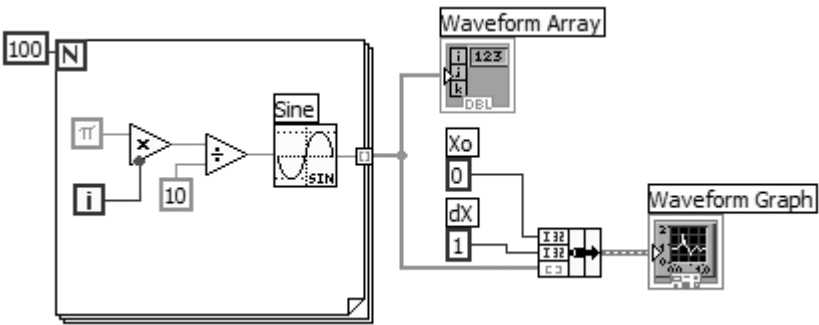
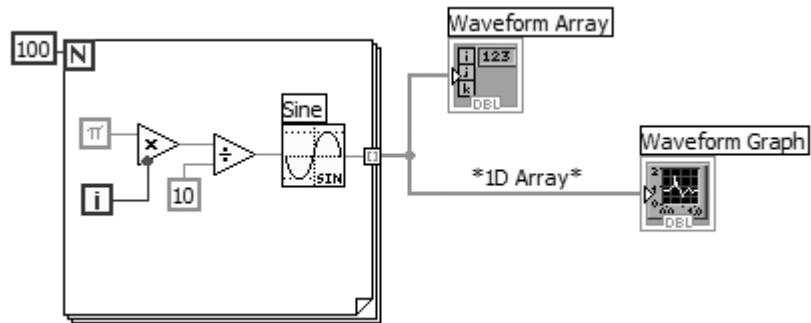

Figure 8.20
Figure 8.22
4. Build the block diagram shown in Figure 8.20.
In the block diagram of Figure 8.20, you specified an initial X and a delta X value for the waveform. Frequently, the initial X value will be zero and the delta X value will be 1. In these instances, you can wire the waveform array directly to the waveform graph terminal, as shown in Figure 8.22, and take advantage of the default delta X and initial X values for a graph.
the **Edit** menu or use the keyboard shortcut (<control-B> in Windows, <command-B> in Mac OS X, and <meta-B> in Linux). Finish wiring the block diagram as shown in Figure 8.22.